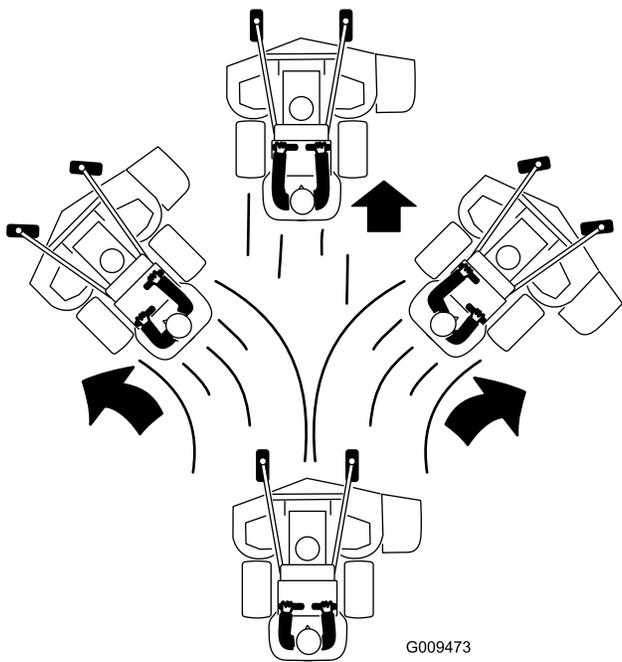

Figure 23
4. Slowly push the motion control levers forward (Figure 23).